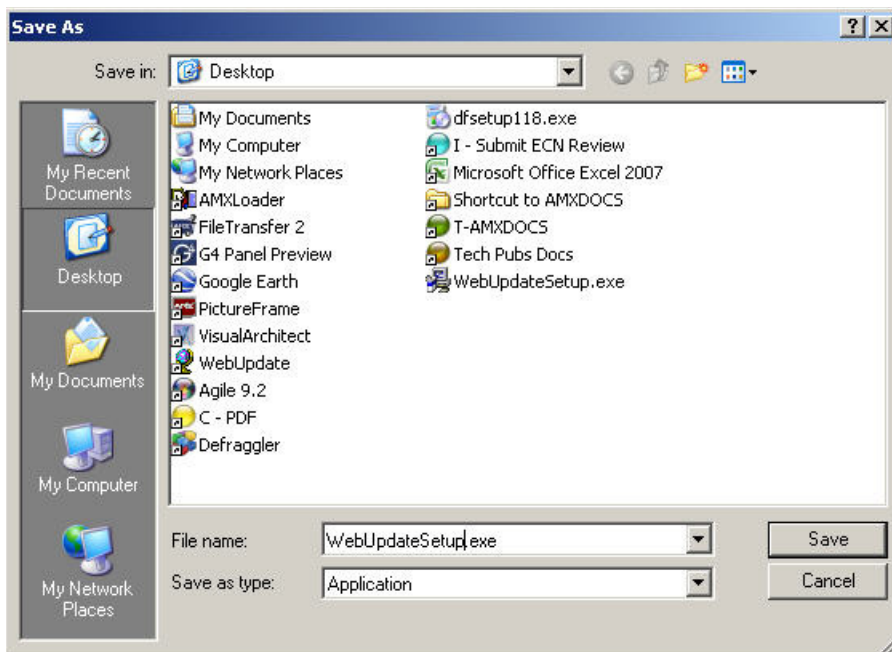

FIG. 288 Saving WebUpdateSetup.exe
7. In the *Save As* dialog, select a target directory for the **WebUpdateSetup.exe** file (FIG. 288):